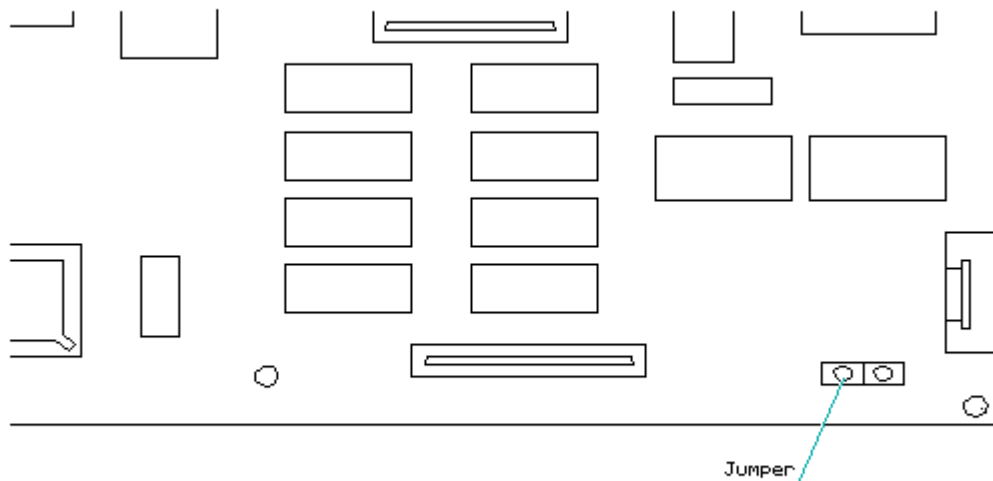

Figure 5-2. Power-On Password Jumper
3. Remove the Power-On Password jumper (Figure 5-2). Retain the jumper for replacement later.